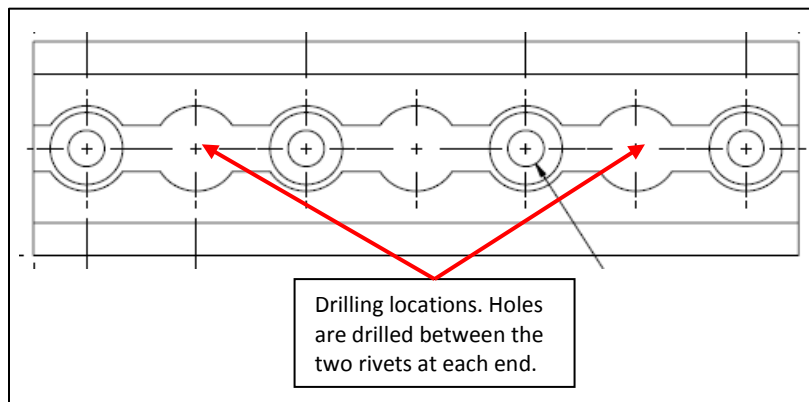

Figure 1: Drilling Locations
3. Drill a hole through the track and the floor using a "P" bit (.3230 in. bit). See **Figure 1** for locations.